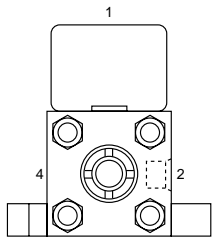

Fig. 4
On cylinder mounting styles C, CB, F and G, the actuator will be mounted at position (1) with the port at position (2) unless otherwise specified (see Fig. 4). If specified, the actuator can be mounted at position (2) or (4) on some bore sizes, with the port on the adjacent or opposite side. On the latter option, the port will be supplied at position (1) unless otherwise specified.